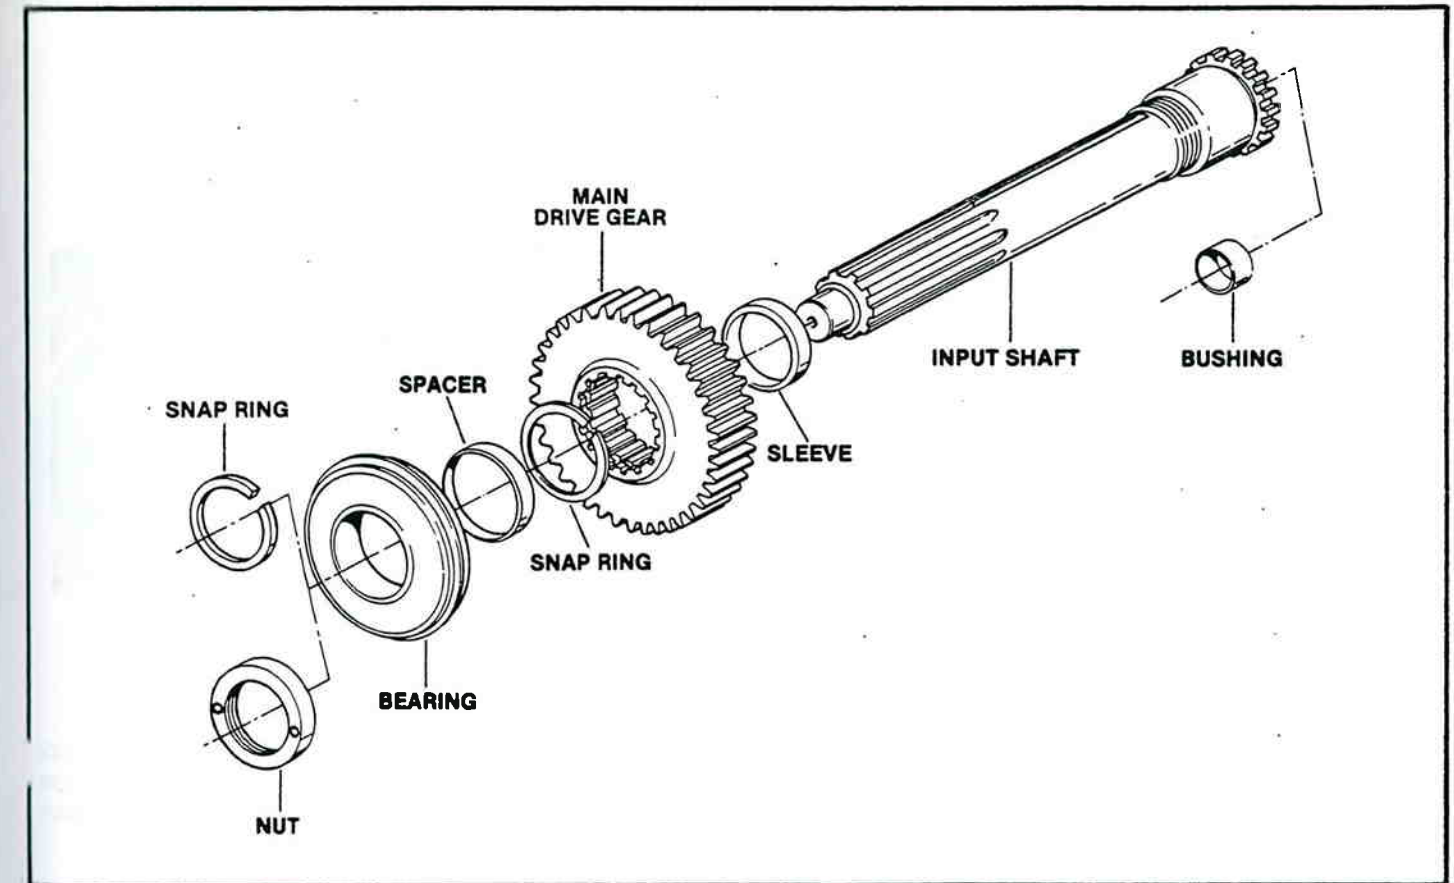

Figure 13-66. Drive Shaft (Input Shaft) and Related Parts.
1. (See figure 13-66 for assembly drawing.) Remove capscrews from the front bearing cover (figure 13-67).